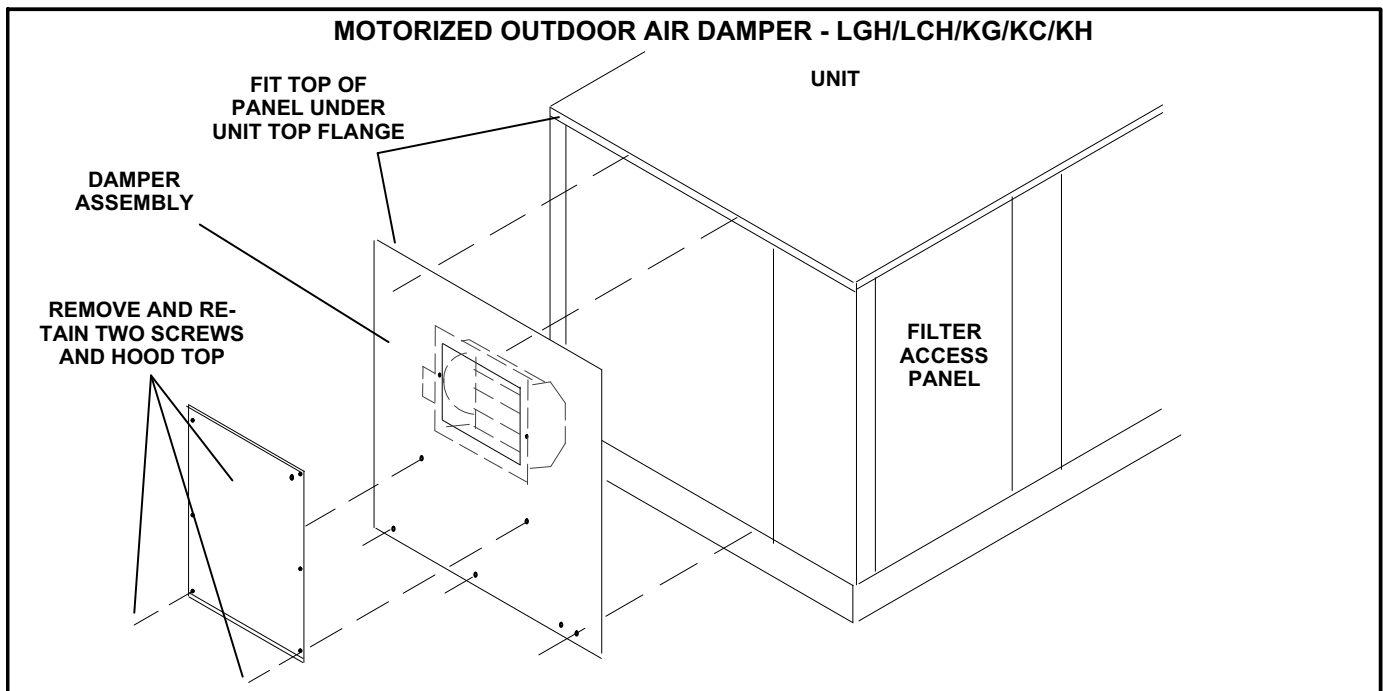

FIGURE 3
- 7- Remove and retain two screws securing the hood top to the damper assembly (provided in kit). Remove hood top and retain. See figure 3.
Locate the two retained screws removed from the hood top in figure 3. Install screws into the two open holes on the unit end panel below the assembled hood. See figure 10.